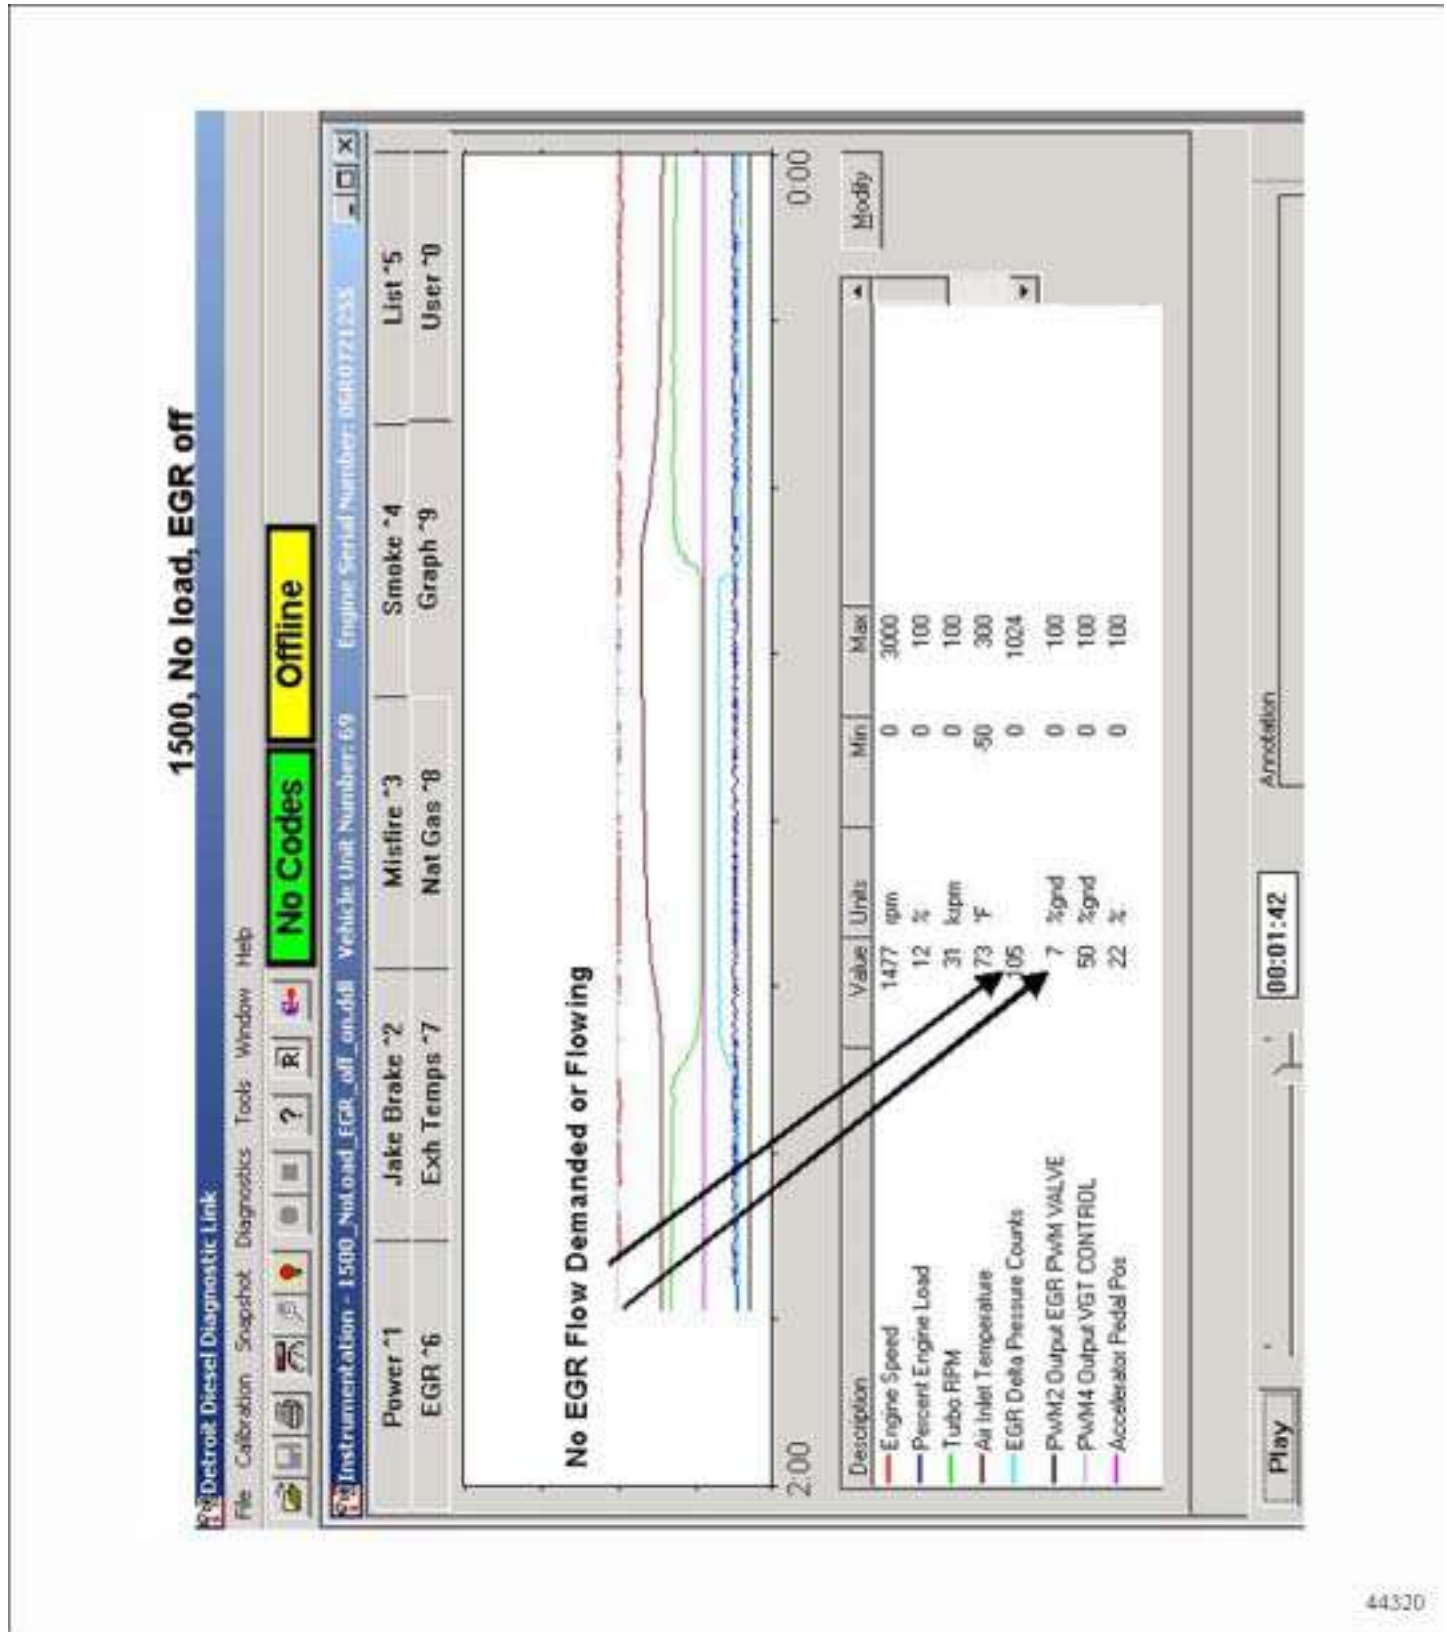

Figure 7-4 1500 — No Load — EGR Off
- ☐ 1500 rpm throttling no EGR. See Figure 7-4.